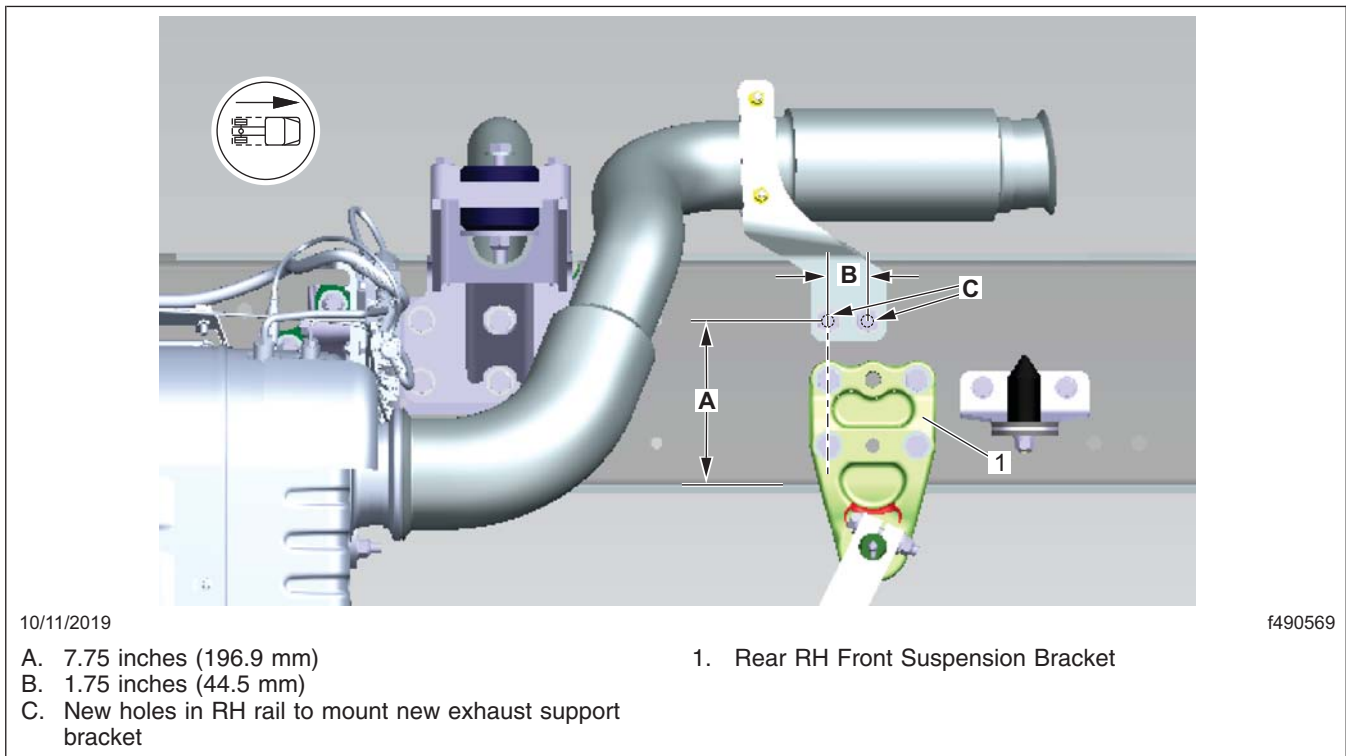

Fig. 3, Drilling Locations for New Exhaust Support Bracket on Frame
8. Using **Fig. 3**, mark the locations for the support bracket mounting fastener holes.